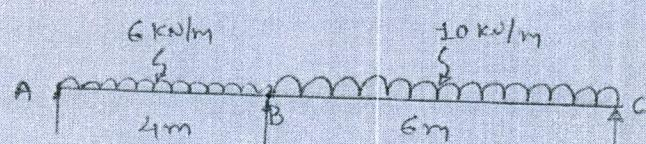

Figure 10
- (A) Explain carry over factor and distribution factor with illustration. [5]
- (B) Analyse the continuous beam shown in fig.10 by moment distribution method. [5]